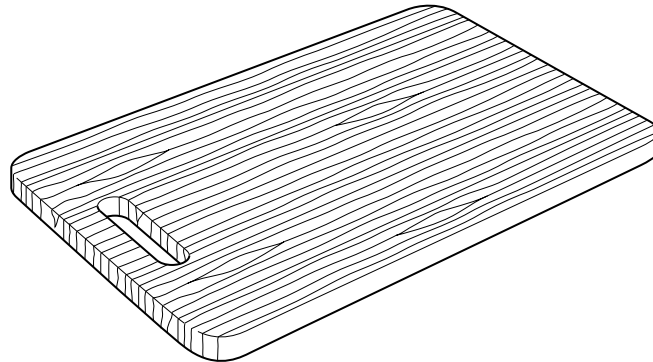

Fig. 1
- 2 Fig. 1 shows a kitchen chopping board.